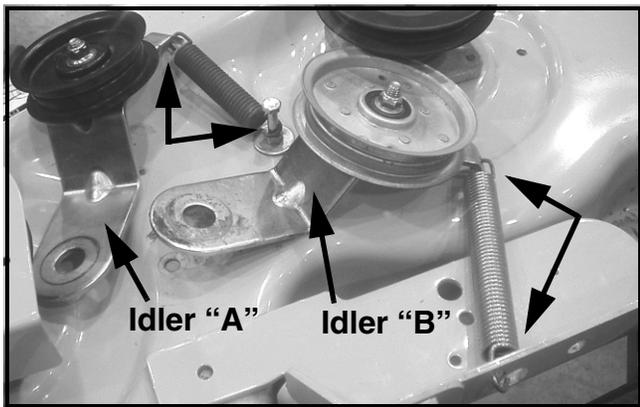

FIGURE 4
9. Re-attach Idler "A" extension spring to the new Idler "A" assembly. Ensure both idler's have their springs attached at both ends. See Figure 4.